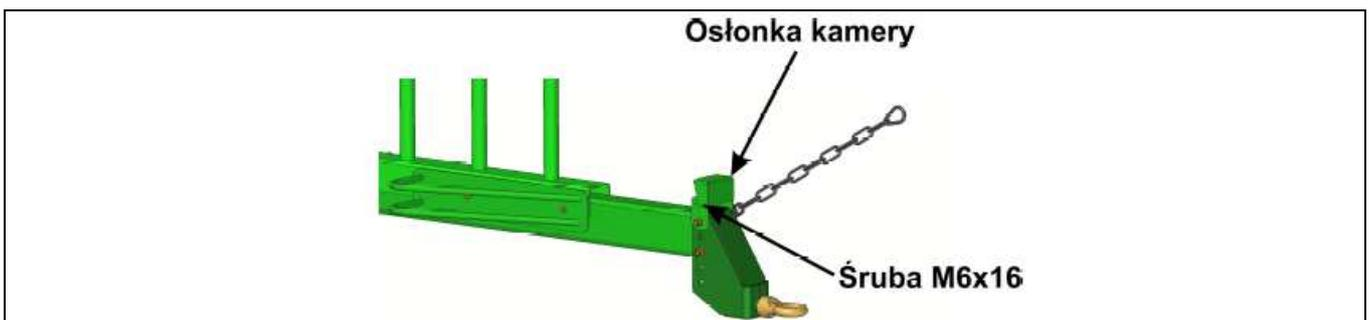

FIG. 80. ATTACHING COUPLING ELEMENTS TO THE WRAPPING MACHINE
- After the support with the rear view camera is installed, screw in the camera shield using M6x16 bolts and remember to insert the camera connectors to the appropriate opening in the camera support, Fig. 80.